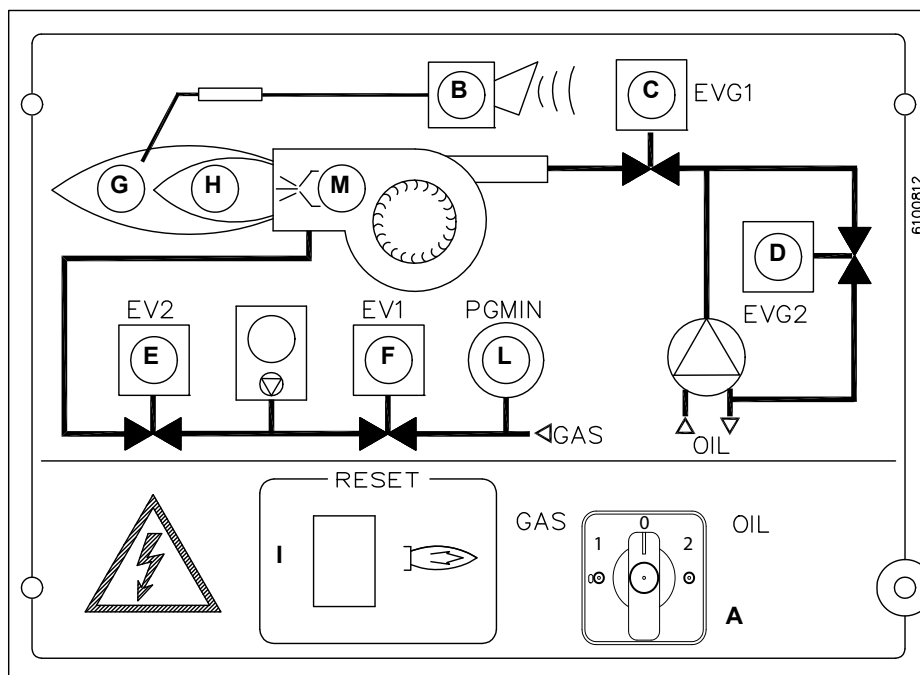
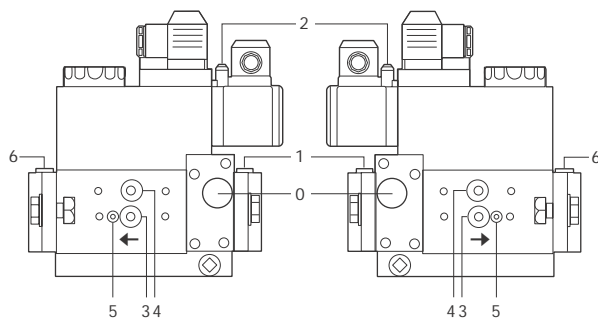

Fig. 24 - Burner control panel
Fig. 25
- Change the filter if the pressure difference between pressure connection 1 and 3 (Fig. 24-Fig. 25) is  $\Delta p > 10$  mbar.
- Change the filter if the pressure difference between pressure connection 1 and 3 (Fig. 24-Fig. 25) is twice as high compared to the last check.